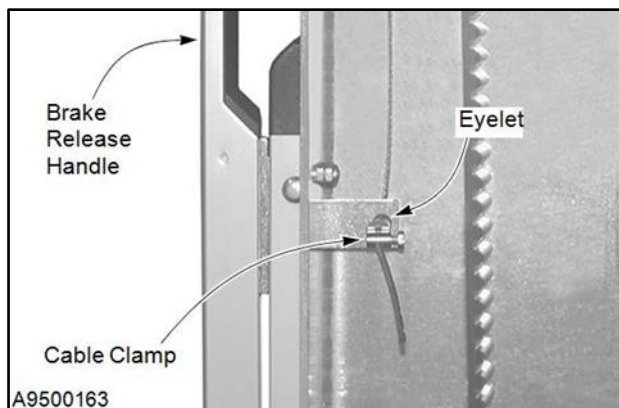

Figure 47
4. Make sure the brake release handle(s) is in good working order and securely fastened to the left side column and/or the opposite side wall. Replace any missing or damaged hardware as required. (See Figure 47)
7. Inspect the cable clamp on the lower end of the cable to ensure it is securely fastened to the brake release handle. (See Figure 47)